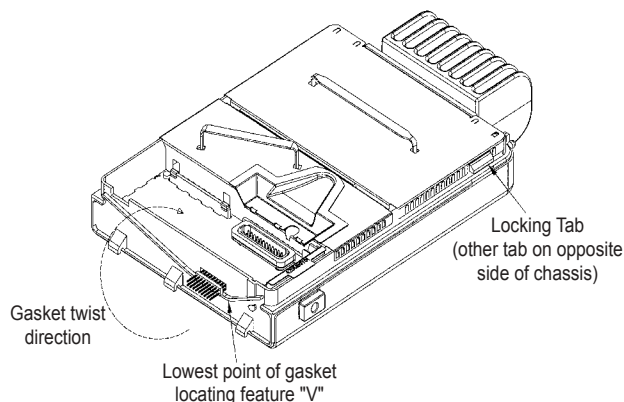

Figure 5-23. Installing Cover Gasket
3. Place a new cover gasket around the chassis being sure it is placed under the locking tabs and the v-shaped rail shown in Figure 5-23. To ensure that the gasket remains seated under the rail, twist the gasket up and toward chassis between the fingers at the location of the lowest point of "V". Position the gasket under the rail and release.